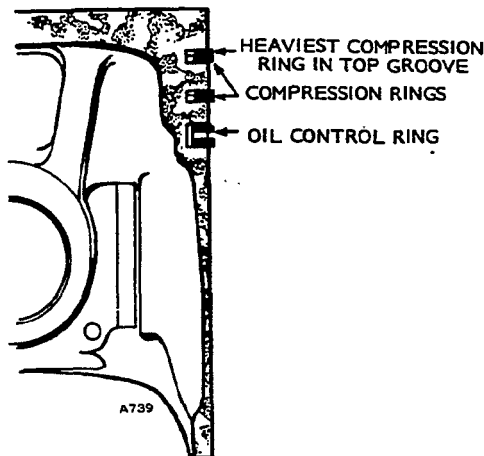

FIGURE 43. PISTON RINGS
3. Install the rings on the pistons starting with the oil control ring (Figure 43). Use a piston ring spreader to prevent twisting or excessive expansion of the ring. Compression rings have a dot or the word "top" on one side of the ring to indicate which side faces the top of the piston. Unmarked piston rings can be installed either way. The oil control ring has an expander; install the expander first and then close until the expander ends butt. The joint should be 180 degrees from the gap of that ring. The second compression ring has an expander also.